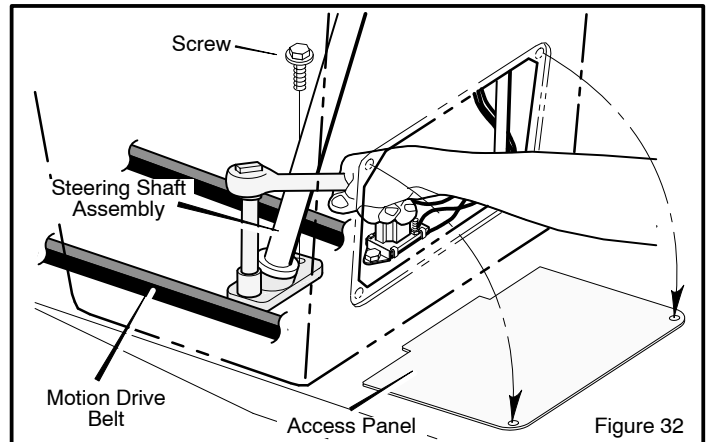

Figure 32
8. Remove the **access panel** (Figure 32).
9. Remove the two **screws** that attach the **steering shaft assembly** (Figure 32). Raise the steering wheel and **steering shaft assembly**. Pull the **motion drive belt** under the **steering shaft assembly**.
9. Attach the **steering shaft assembly** to the steering plate with two screws (Figure 32).
10. Attach the **access panel** (Figure 32).